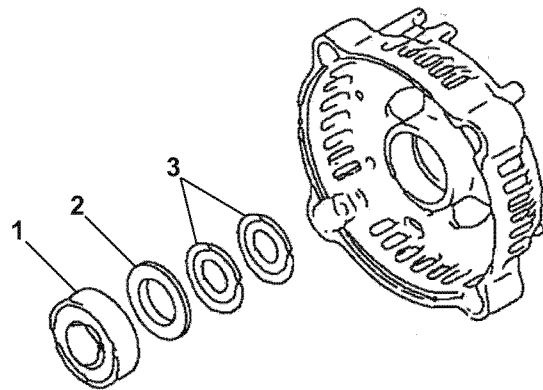

Figure 11-12
1. If removed, reinstall the two thrust washers (Figure 11-12, (3)) and bearing cover (Figure 11-12, (2)) in the rear frame housing. Lubricate the outside diameter of a new bearing (Figure 11-12, (1)). Press the bearing into the rear frame housing.